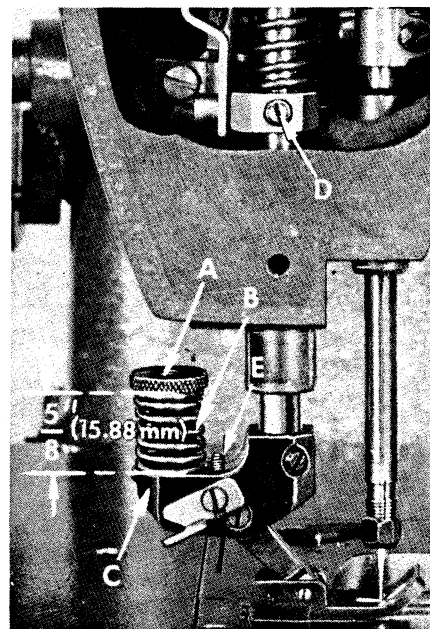

Fig. 17
As a preliminary setting, adjust spring regulator nut (A, Fig. 17) on feeding presser foot so the distance from the top of spring (B) to the yoke (C) is $\frac{5}{8}$ inch (15.9mm), (See Fig. 17). Assemble the feeding presser foot to presser bar. With presser foot resting on throat plate and feed dog down, press down on spring regulator nut (A, Fig. 17) until the marks on presser foot bottom line up with the centerline of needle, while keeping the needle in the center of needle slot, tighten set screw (D) securing presser bar guide to the presser bar, making sure stop screw in presser bar guide is resting on the bed casting.
When the presser foot is lifted off the bare throat plate, the foot should move back only slightly, less than $\frac{1}{64}$ inch (.4mm). The stop screw (E, Fig. 17) on the yoke, which is set at the factory, can be readjusted if necessary, should this dimension become changed.